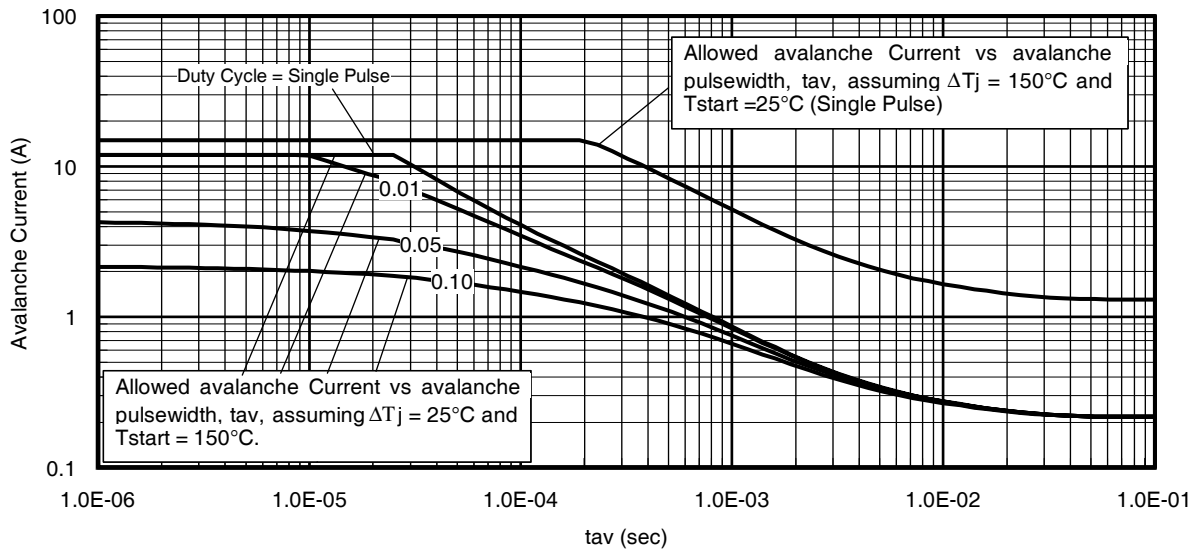

**Fig 16.** Typical Avalanche Current vs. Pulsewidth
**Notes on Repetitive Avalanche Curves , Figures 16, 17:**
7.  $\Delta T$  = Allowable rise in junction temperature, not to exceed  $T_{jmax}$  (assumed as 25°C in Figure 16, 17).